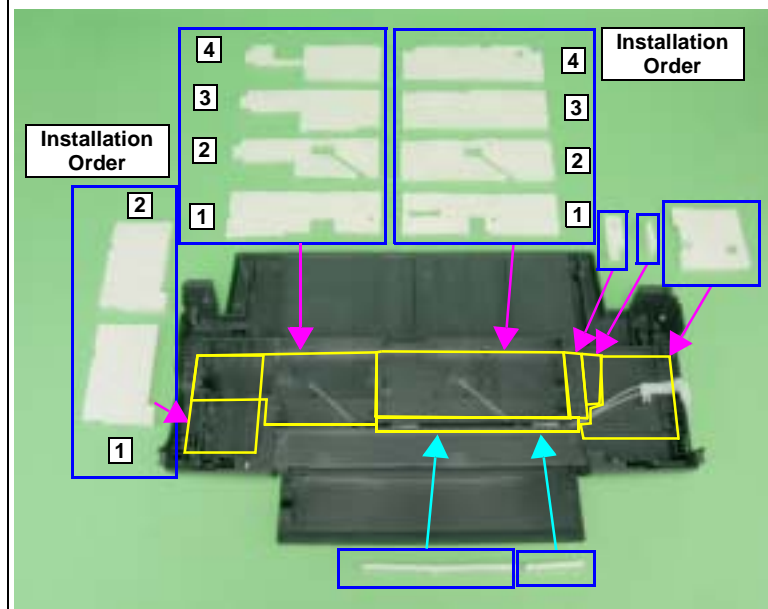

Figure 4-15. Reinstalling the Waste Ink Pads
- Referring to Figure 4-15., correctly install the Waste Ink Pads.